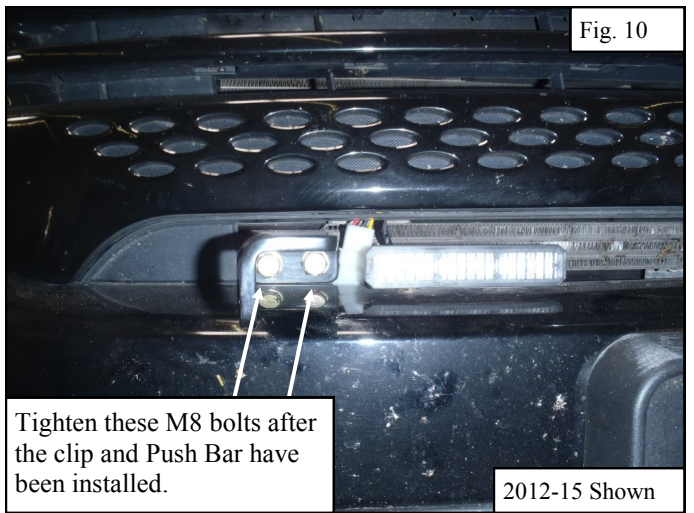
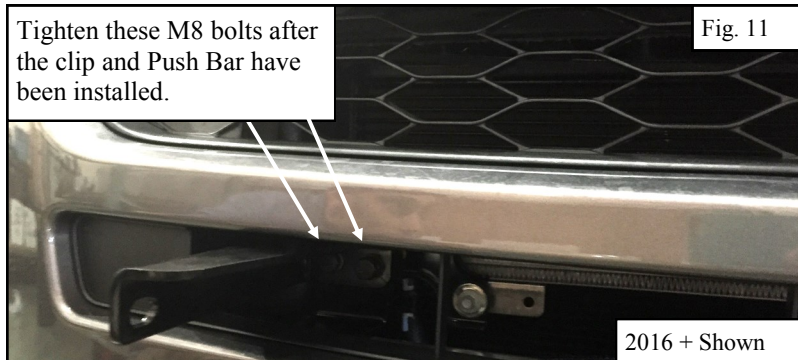

Fig. 10
Fig. 11
11. Align and adjust the Push Bar as necessary. Tighten all remaining fasteners (including the M8 hardware which is accessible using a long extension as shown in Figure 10 & Figure 11); M12 to 50-55 ft-lbs., M10 to 30-35 ft-lbs., M8 to 24-28 ft-lbs. and M6 to 7-8 ft-lbs.